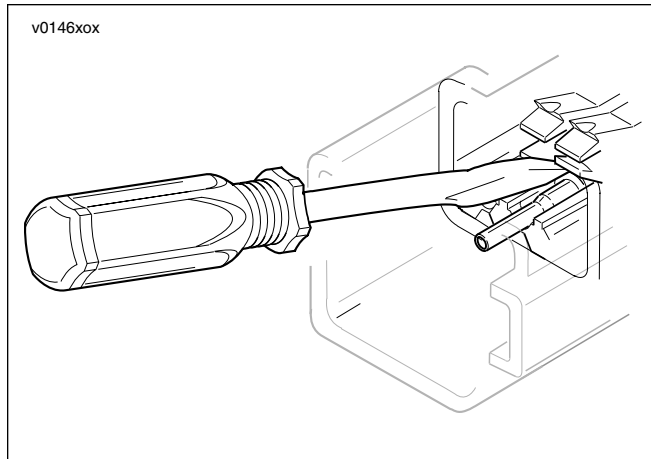

Figure 8-7. Internal Deutsch Terminal Latches
- b. See Figure 8-7. Depress internal terminal latches and pull socket terminals out of the wire seal.